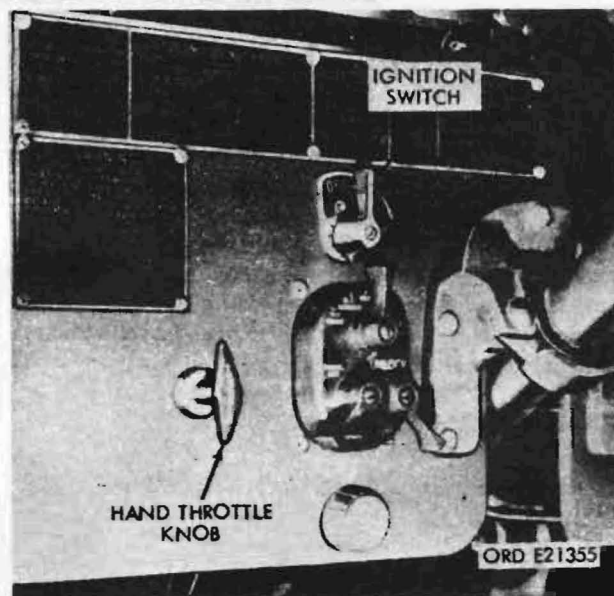

Figure 101. Instrument panel - left side
- (1) Pull the choke control knob (T, fig. 31) out when starting a cold engine. In warm weather, or when the engine is warm, use the choke sparingly. When starting a hot engine, never pump the accelerator pedal or use the choke. Pull out the hand-throttle knob (fig. 101) one-quarter of its travel.
- (2) Turn the IGNITION switch (fig. 101) to the ON position.